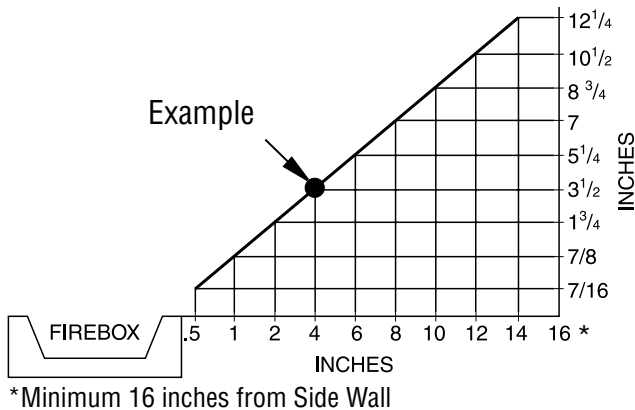

Figure 4 - Minimum Clearance for Combustible to Wall
- where curtains, furniture, clothing or other flammable objects are less than 36" from front and 42" from top of heater; for side clearances see Figure 4
A. Clearances from the side of the fireplace cabinet to any combustible material and wall should follow diagram in **Figure 4**.
Example: The face of a mantel, bookshelf, etc. is made of combustible material and protrudes 3-1/2" from the wall. This combustible material must be 4" from the side of the fireplace cabinet (see **Figure 4**).